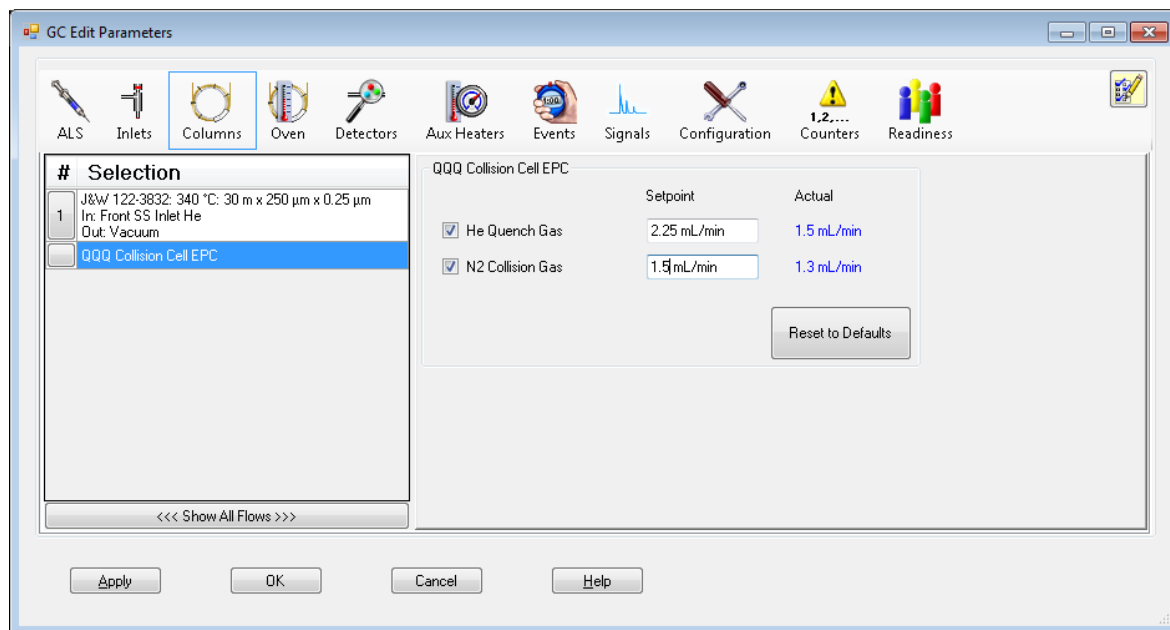

Figure 17 Setting collision cell gas flow rate
- 2 Click the **CFT** icon to display the **CFT** screen. See Figure 17.